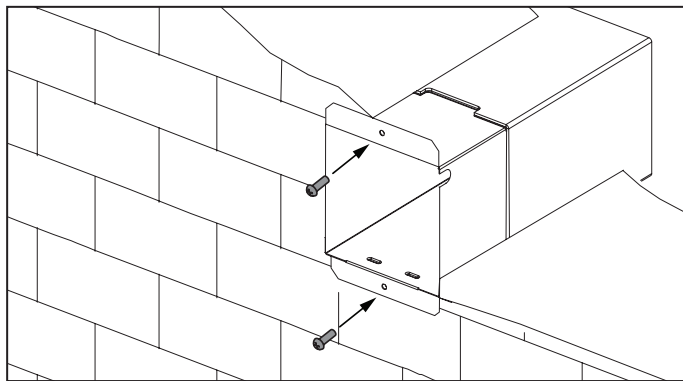

Fig. 11. Fixation of the telescopic air duct.
3. Fix the inner part of the telescopic air duct on inner wall side using the screws 3x25 from the delivery set, Fig. 11.